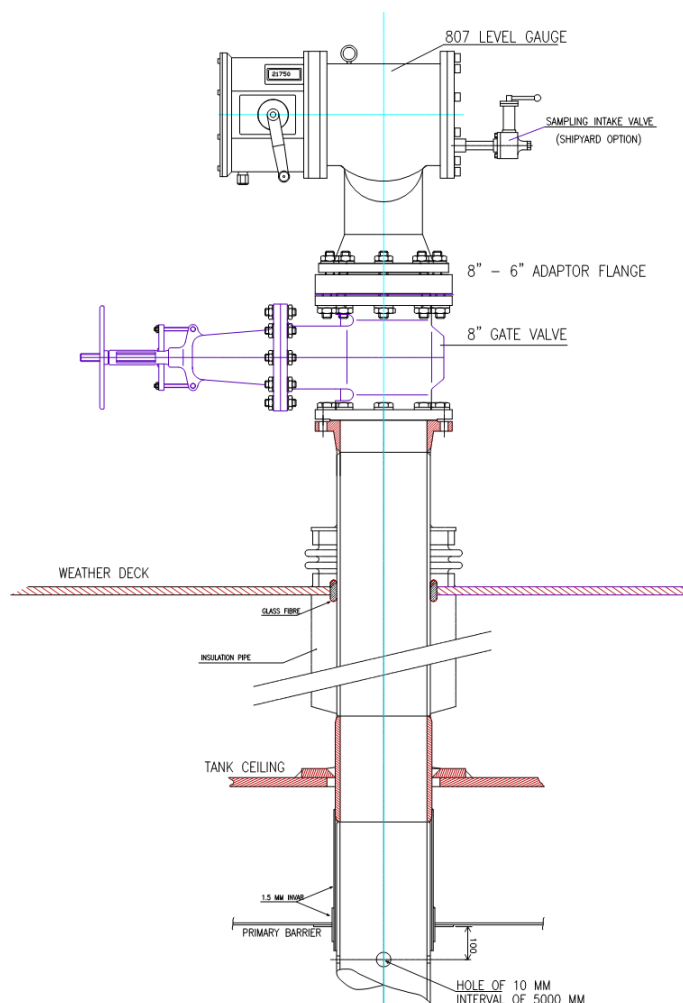

Figure 3 Typical gas tanker installation
First fit the spring-motor compartment cover (fig. 3 item 7), making sure that no tools or dirt remain in this compartment. Check that the oil drain plug is tightened (fig. 3 item 11) and fill the spring-motor compartment with oil up to the oil fill plug level (oil fill plug fig. 3 item 11).
The operation of the level gauge is very simple. To hoist the float, simply place the hand crank (see fig. 3 item 90) on the shaft at the spring motor compartment and rotate slowly clock-wise. The magnetic coupling of hand crank and hoisting mechanism prevents over-winding. When the float has reached the highest point (against float stops) the hand crank slips through the magnetic coupling.